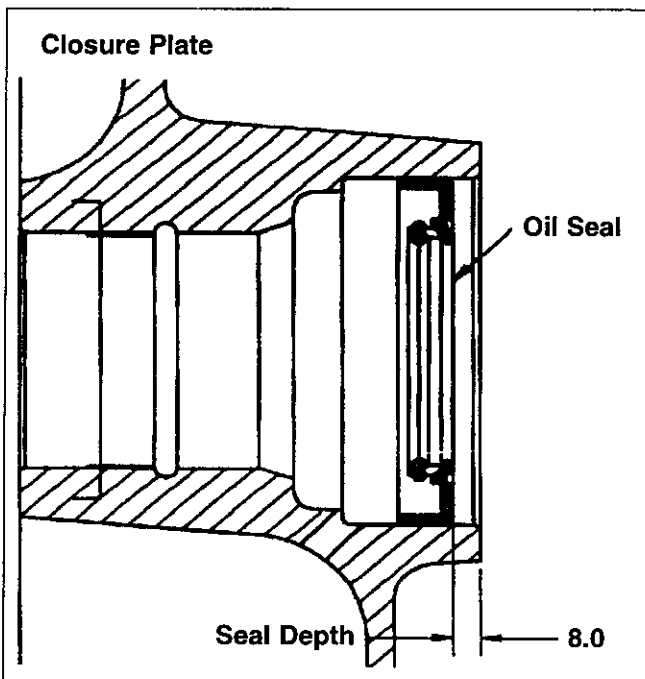

Figure 11-15. Oil Seal Depth in Closure Plate.
3. Drive the oil seal into the closure plate using a seal driver. Make sure the oil seal is installed straight and true in bore to depth shown in Figure 11-15.